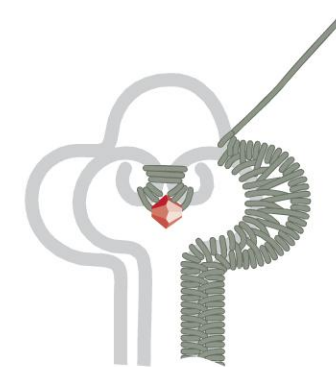

figure 17
- 29** When the frames are parallel, continue to work Weave Pattern 1. Where the frames are curved, adjust the weave as necessary by adding a coil or two to a frame or coiling one less time around a frame. For example, around the center of the key I needed to wrap the filigree frame wire just one time, so I didn't even make a full coil. Then I coiled the key frame three times. Continue weaving to base of the top curve of the key frame wire (Figure 17).